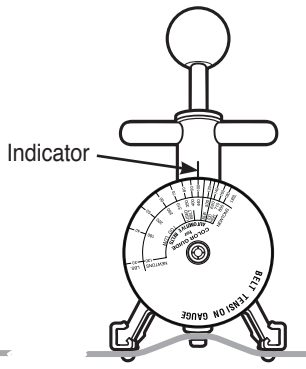

Figure 2
2. Hold the gauge square to the edge of the belt, and release the ball using a quick, snapping motion. See Figure 2.